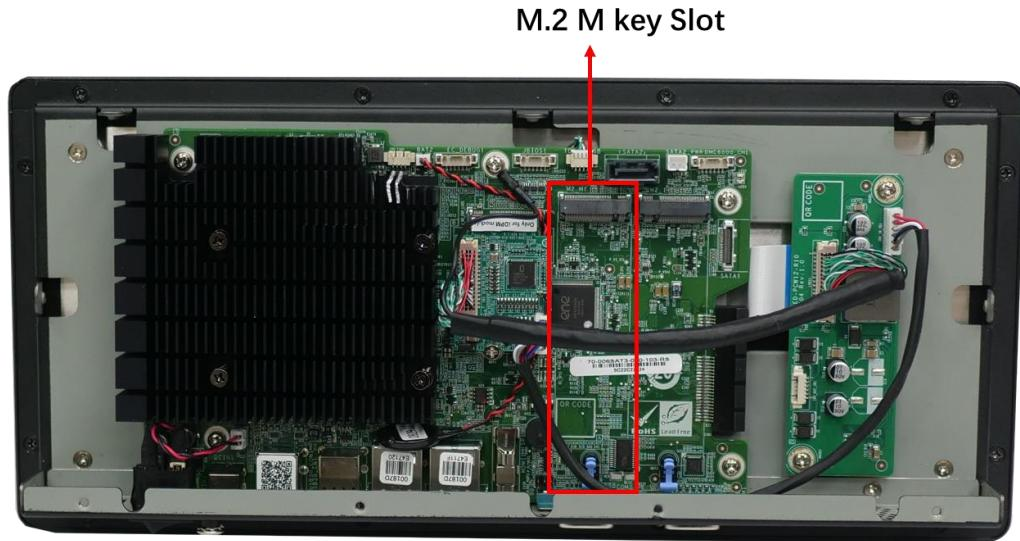

Figure 3-3: M.2 Slot Location
Step 2: Locate the M.2 slot as shown in Figure 3-3.